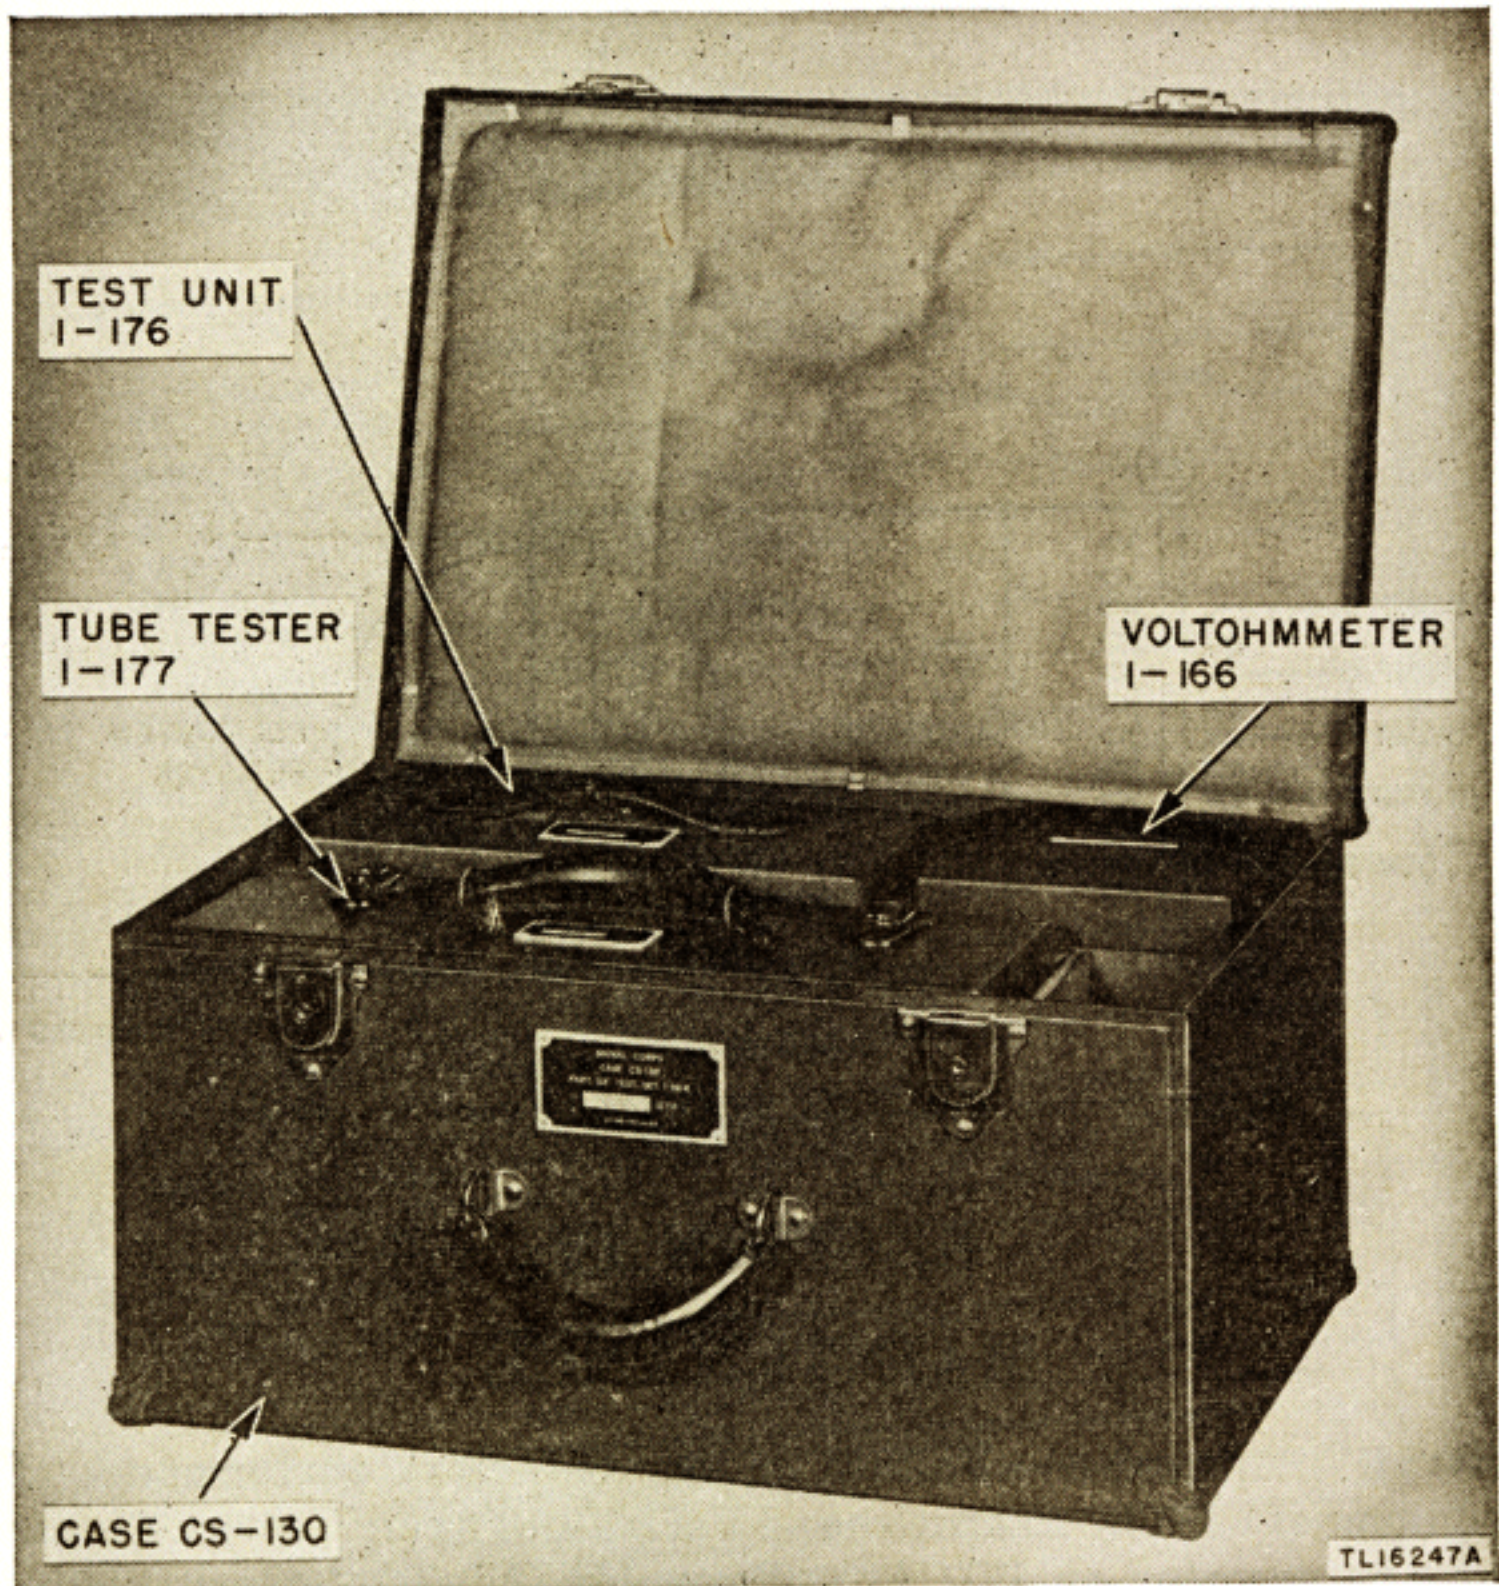

Figure 1.2. Test Set I-56-K.
a. (Superseded). Test Unit I-176 is furnished both separately and as a part of Test Set I-56-K. (See fig. 1.2.) As a part of Test Set I-56-K, the unit fits into a compartment of Carrying Case CS-130. Weights and dimensions of the components of Test Set I-56-K are given below: